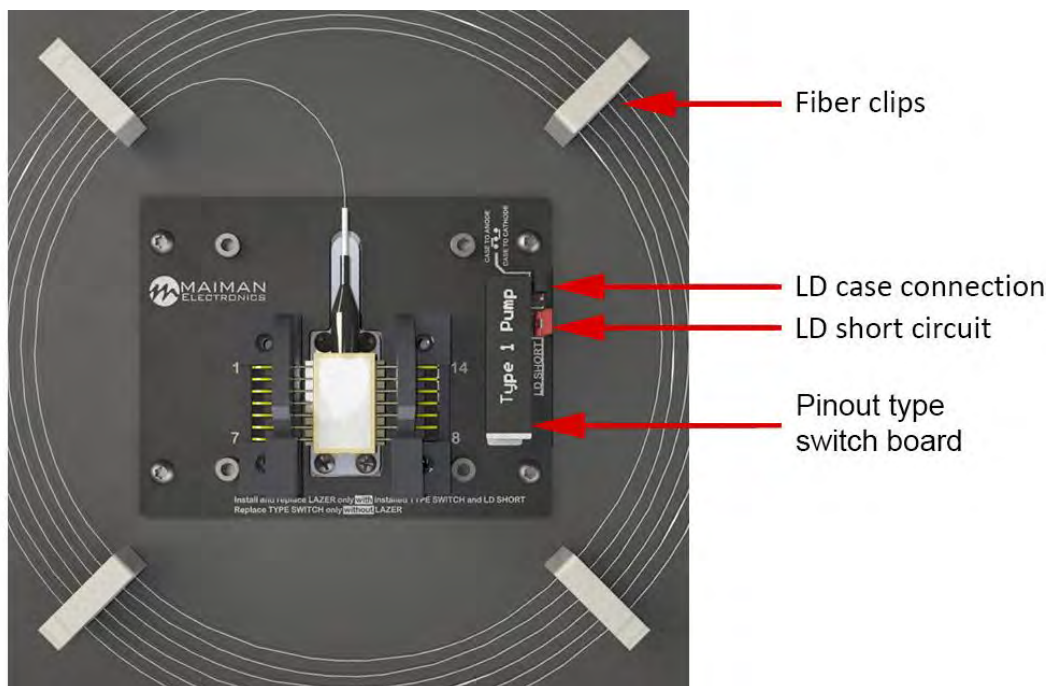

Fig. 8 – LD seat for type 1 Butterfly 14-pin
2. Determine the required pinout type in accordance with the description on the LD. Install the pinout type switch board in the LD seat (Fig. 8). Please note that the position of the pin change board key (white stripe) must correspond to the position of the LD seat key;
9. You can connect LD case to anode or cathode using the appropriate connector (Fig.8).